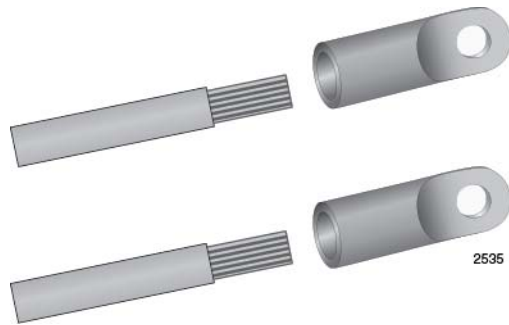

Figure 142. Attaching the Power Wires to the Straight Terminal Lugs
2. Insert the power wires into the terminals included with the power supply and use a crimping tool to secure the wires to the terminals. See Figure 142.